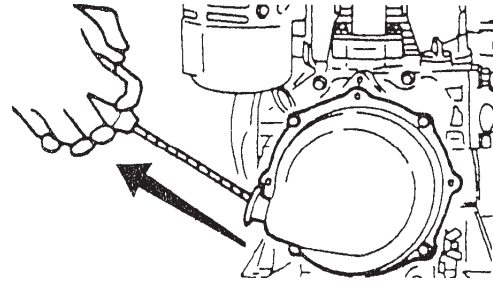

Figure 18. Engine Start Handle
- Grasp the starter grip (Figure 18) and slowly pull it out. The resistance becomes the hardest at a certain position, corresponding to the compression point. Pull the starter grip briskly and smoothly for starting.